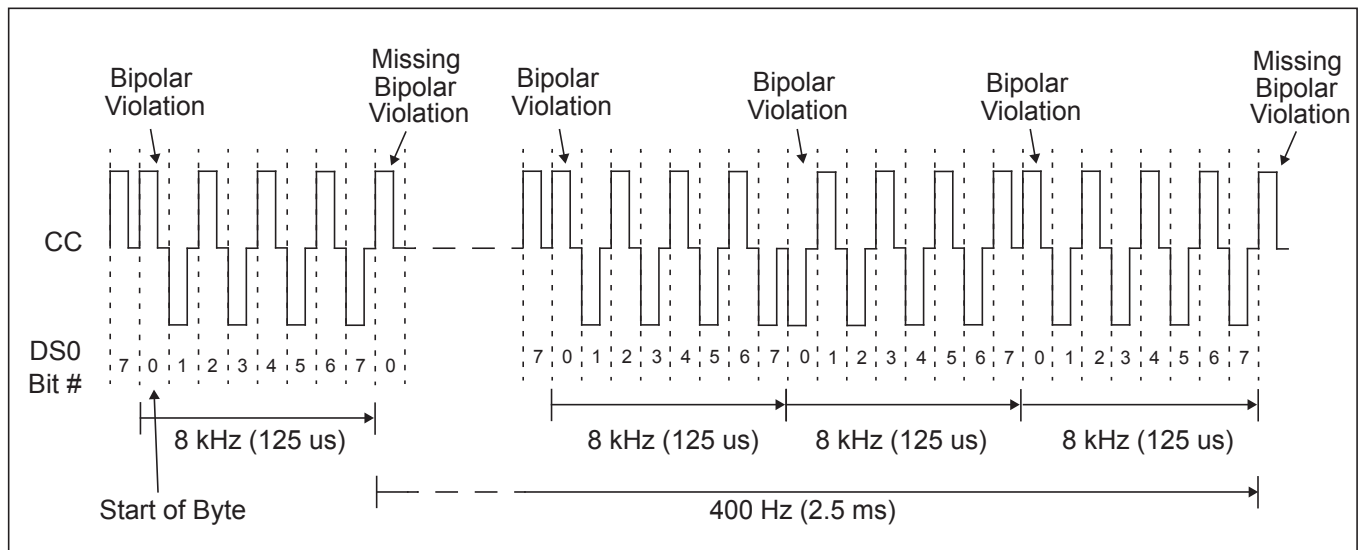

**Figure 9 - External Circuit for Converting a Bipolar CC Signal into Two Unipolar Signals**
The ZL30130 provides internal decoding logic necessary for extracting the 64 kHz reference clock and the 8 kHz frame pulse from the CC signal. It is capable of receiving two CC references using existing ref/sync input pins. One CC signal is received on the ref0/sync0 pins, and the other on the ref1/sync1 pins. Before interfacing the bipolar CC signal to the ref/sync pair, it must be separated into two unipolar signals using a simple external circuit as shown in Figure 9.